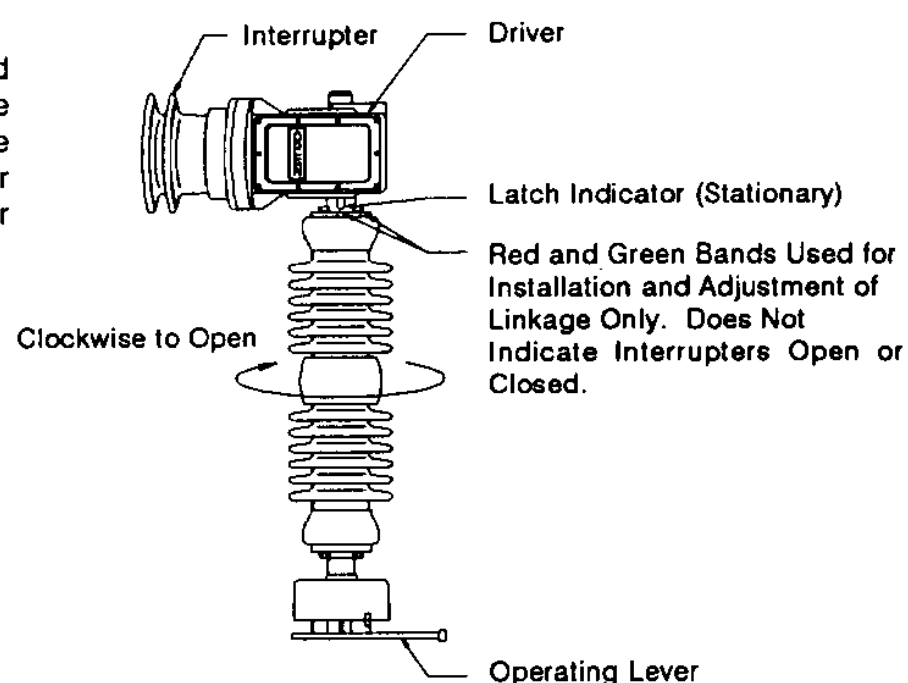

Figure 33 -- Opening Procedure 72-265-035-418
8. Rotate the pole units clockwise to the open position by pushing against the interphase levers and/or hand turning the insulators. When full open, there will be resistance to further rotation and the latch pointers will indicate in the green bands underneath the drivers. See Figure 33.